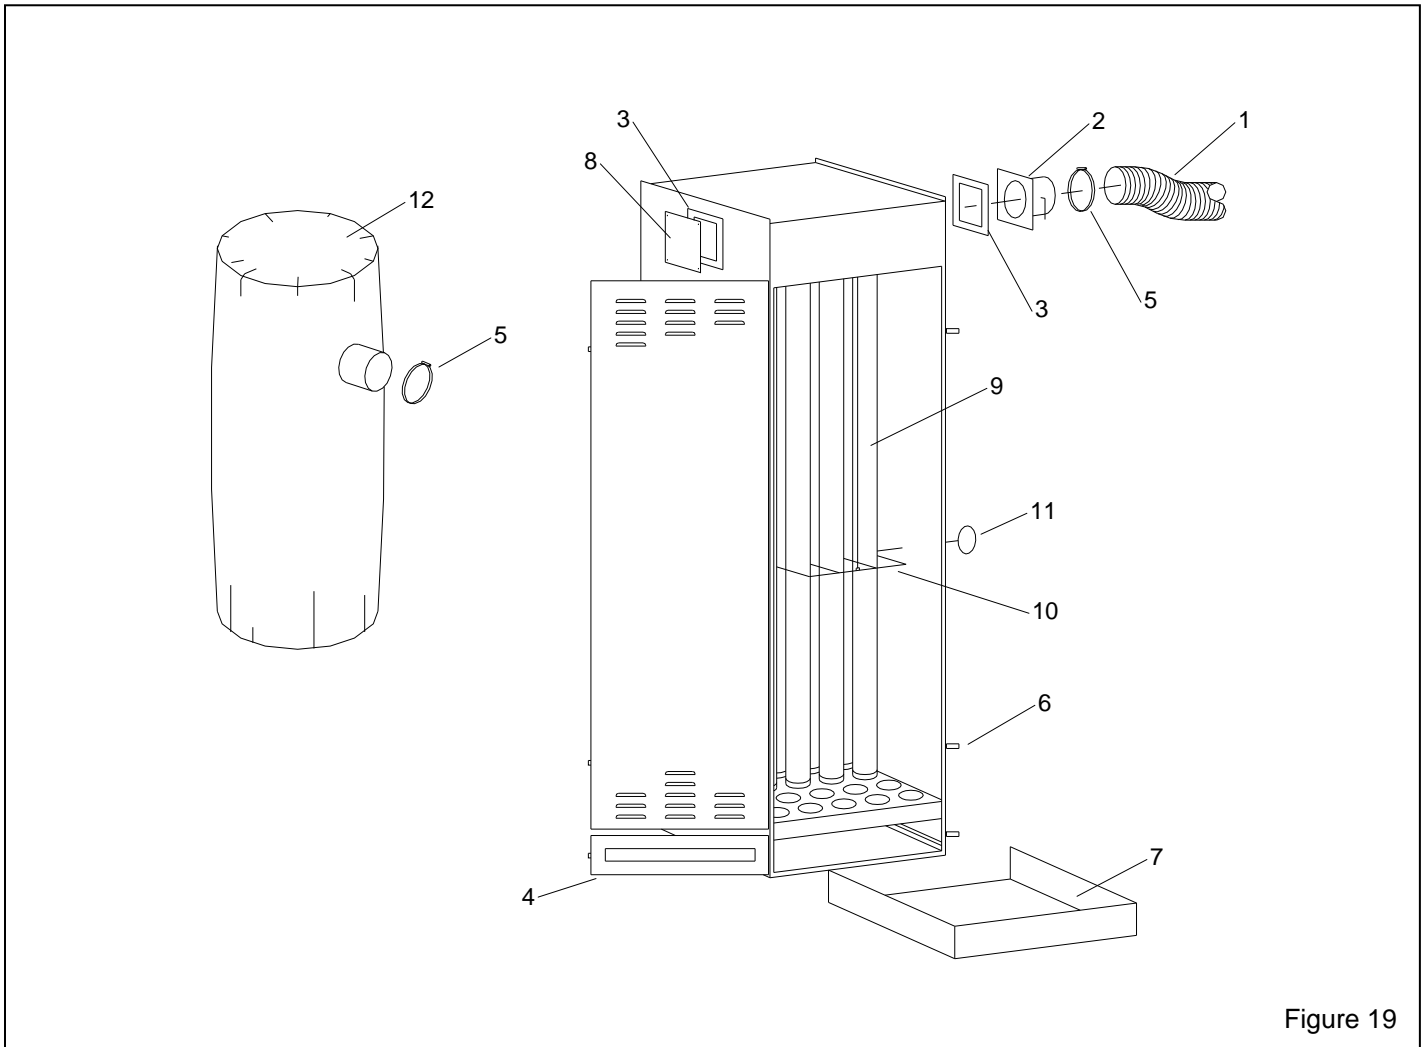

Figure 19
9.9 Dry Filter Dust Collector and Dust Bags, Figure 19